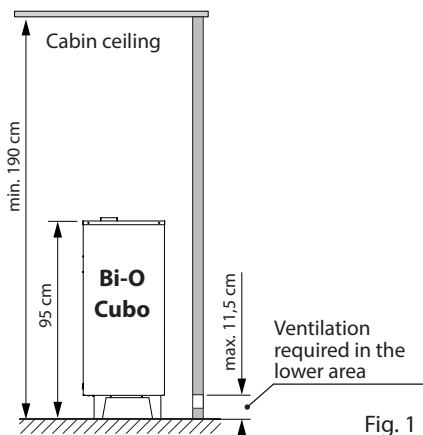

Fig. 1
- The minimum interior height of the sauna cabin is 1.90 m (Fig 1).